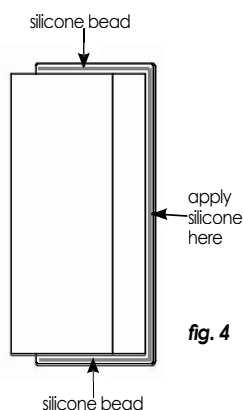

fig. 4
10. When the shampoo shelf fits correctly apply a continuous bead of silicone to the bullnose edge of the shelf (fig. 4).